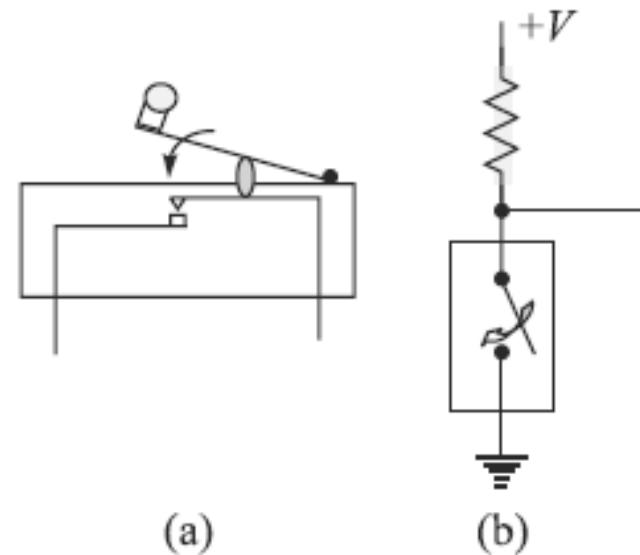

Fig. 4.11 Limit switch
The limit switch usually has a pressure-sensitive mechanical arm, as shown in Fig. 4.11(a). When an object applies pressure on the mechanical arm, the switch is energized. An object might have an attached magnet that causes a contact to rise and close when the object passes over the arm. As shown in Fig. 4.11(b), the pull-up register keeps the signal at  $+V$  until the switch closes, sending the signal to ground. Limit switches can be either Normally Open (NO) or Normally Closed (NC), and may have multiple-poles. A normally open switch has continuity when pressure is applied. A single-pole switch allows one circuit to be opened or closed upon contact, whereas a multi-pole switch allows multiple switch circuits to be open or closed. Limit switches are mechanical devices which have problems like